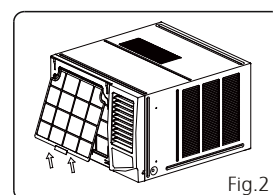

Fig.2
3. Grip the tab on the end of the filter, lift it up, then pull it towards yourself, pull the filter out (see Fig. 2)
1. Insert the air filter into the frame's slot from upside to underside. (See Fig. 2)